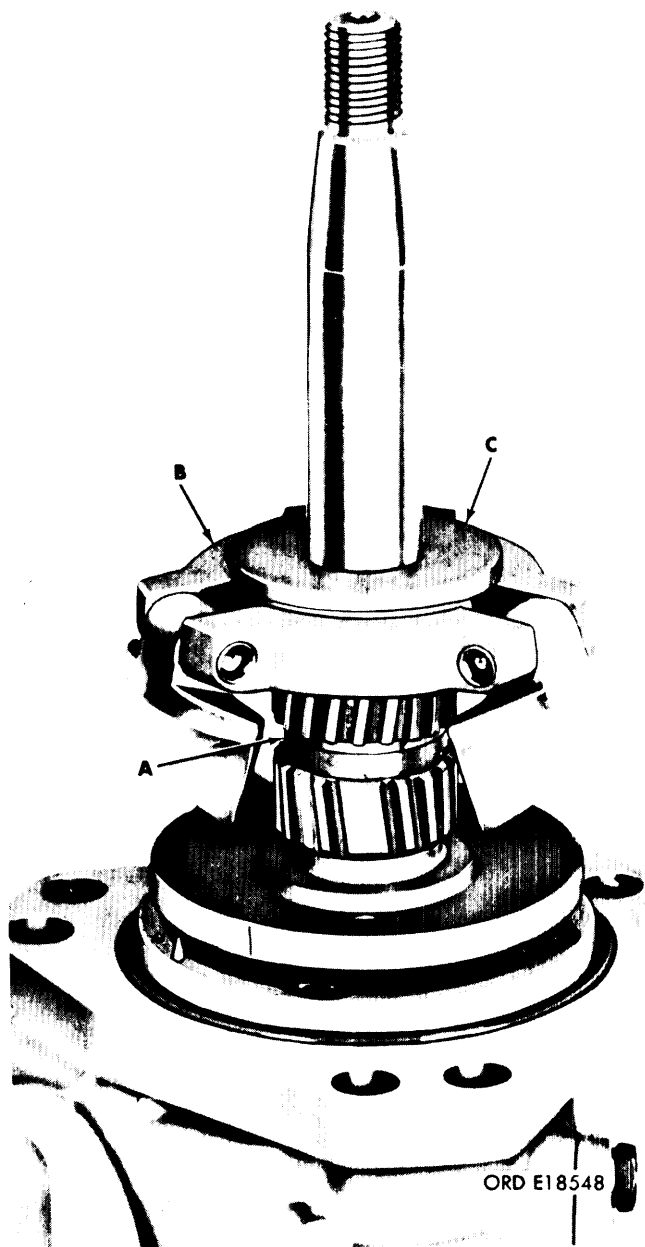
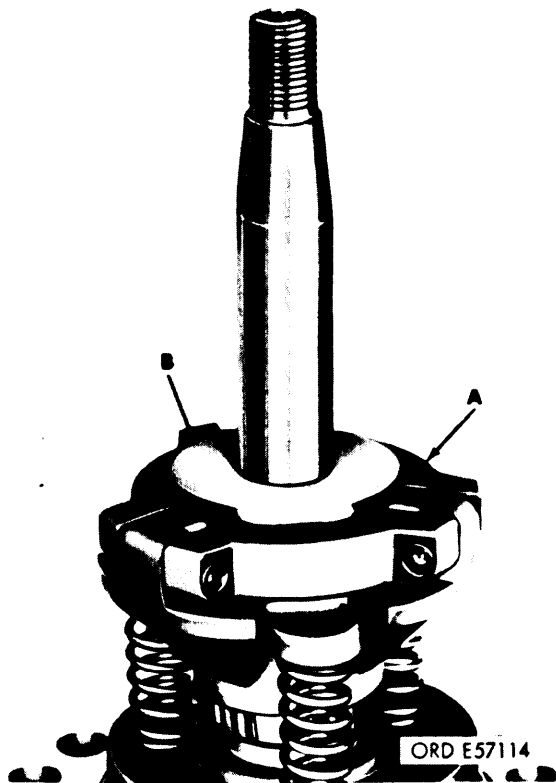

Figure 3-129. Positioning spider assembly on camshaft prior to checking end play.
Figure 3-134. Installing spider assembly, spacer, and thrust plate.
(5) Refer to figure 3-129. Install end play spacer (A), spider assembly (B), and weight and spider thrust plate (C) on camshaft.
(9) Refer to figure 3-134. Install proper end play spacer (A, fig. 3-129) as determined in (7) above. Install spider assembly (A) and weight and spider thrust plate (B).